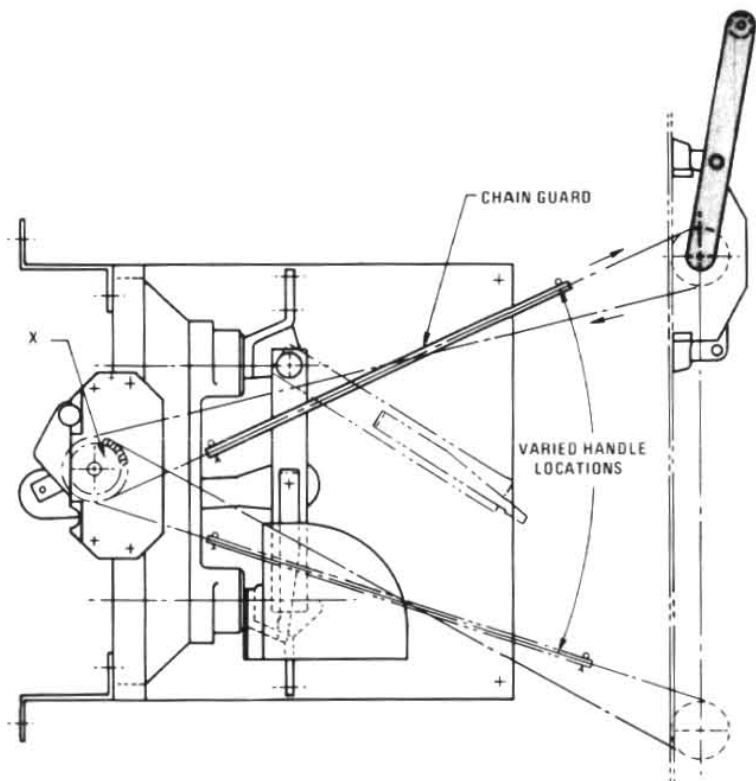

Fig. 9 Handle "UP" in switch closed position.
The component parts for this type installation are shown in Fig. 9. The switch and frame are mounted vertically in the enclosure. The arc chute interrupters are situated **below** the blade hinge. The switch is chain driven with the handle located on the left front corner of the enclosure. Normally, the handle is in the "UP" position with switch closed.
- Assemble the chain drive sprocket kit (Mk 302, Dwg. 316-557, sprocket, washer and retaining ring) on the stored-energy device of the switch, at the left as shown at (X) in Fig. 9.
- Mount the frame-mounted switch (Fig. 9) in the enclosure.
- With switch closed and handle in corresponding up position, assemble chain from drive handle sprocket to switch stored-energy device sprocket, **criss-crossing** the chain and adding the **chain guard** as shown in Fig. 9.